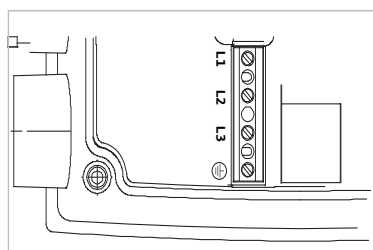

Fig. 24: Power terminals (mains connection terminals)
- Power terminals (mains connection terminals) (Fig. 24)